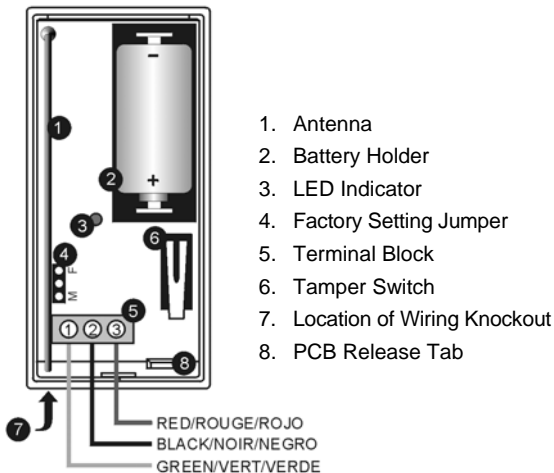

Figure 2: WD861 Transmitter (Cover Off)/
7. Knockout the wiring hole in the back cover – see Figure 2.
10. Connect the sensor's cable to the terminal block as shown in Figure 2